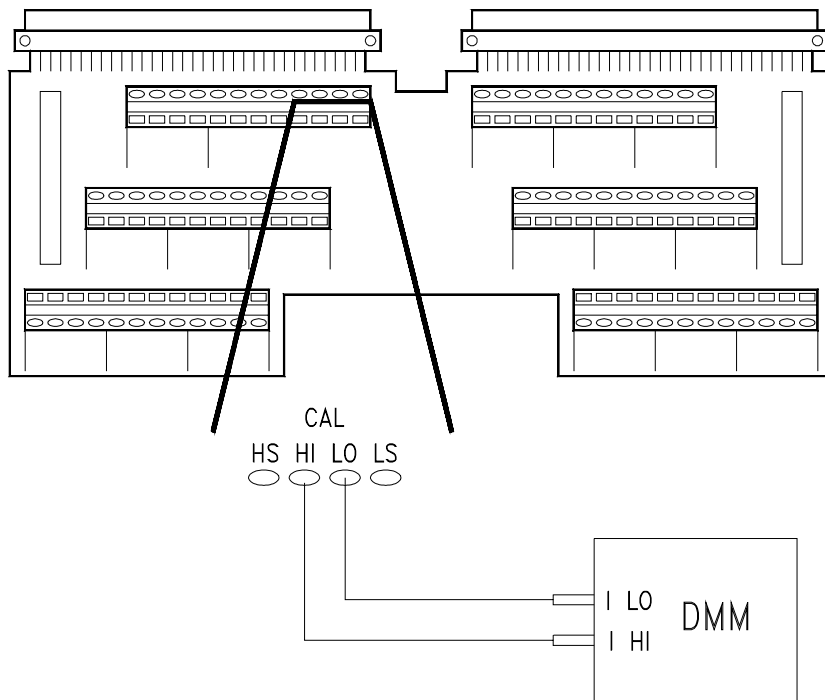

Figure 5-6. Current Adjustment Connections (CAL)
1. Make the connections shown in figure 5-6 or 5-7.